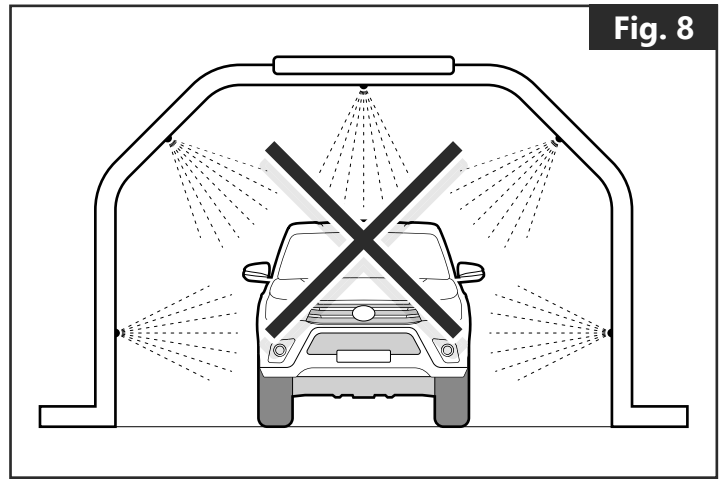

Fig. 8
- We do not recommend washing the Mountain Top Slide™ in a brushless carwash, as the coating may be damaged due to use of chemicals. **(Fig. 8)**